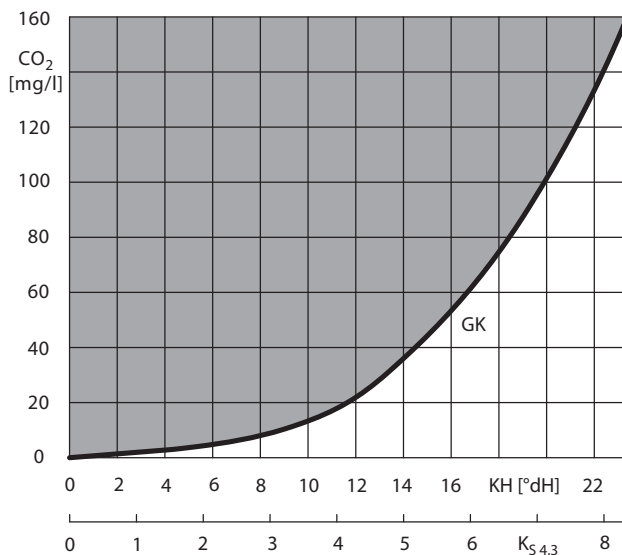

Fig. 2: Chemical resistance of the deposited protective layer to the carbonic acid that is present
- Chemical resistance of the deposited protective layer to the carbonic acid that is present according to Fig. 2